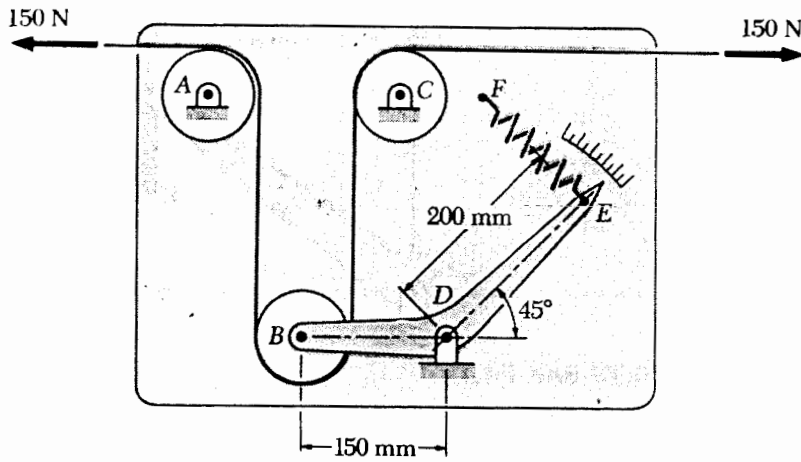

Fig. P3
- 3) The mechanism shown in Fig. P3 is designed to measure the tension in a heavy paper tape used in a manufacturing process. Determine